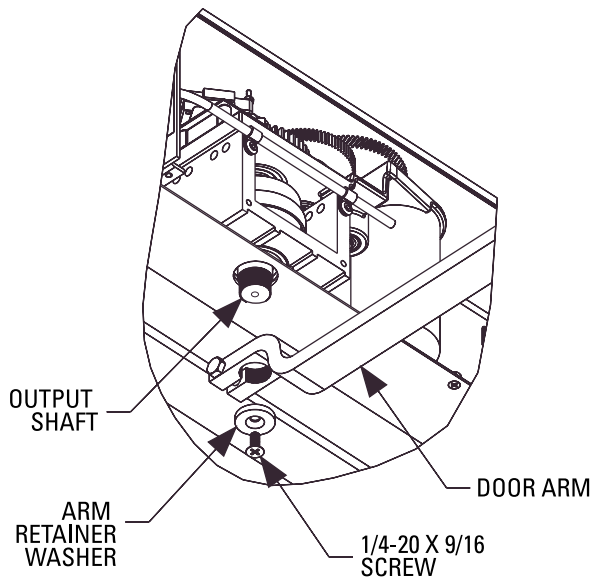

Fig. 15
17. Install the operator arm retainer washer and screw to the bottom of the operator shaft (see Fig. 15).